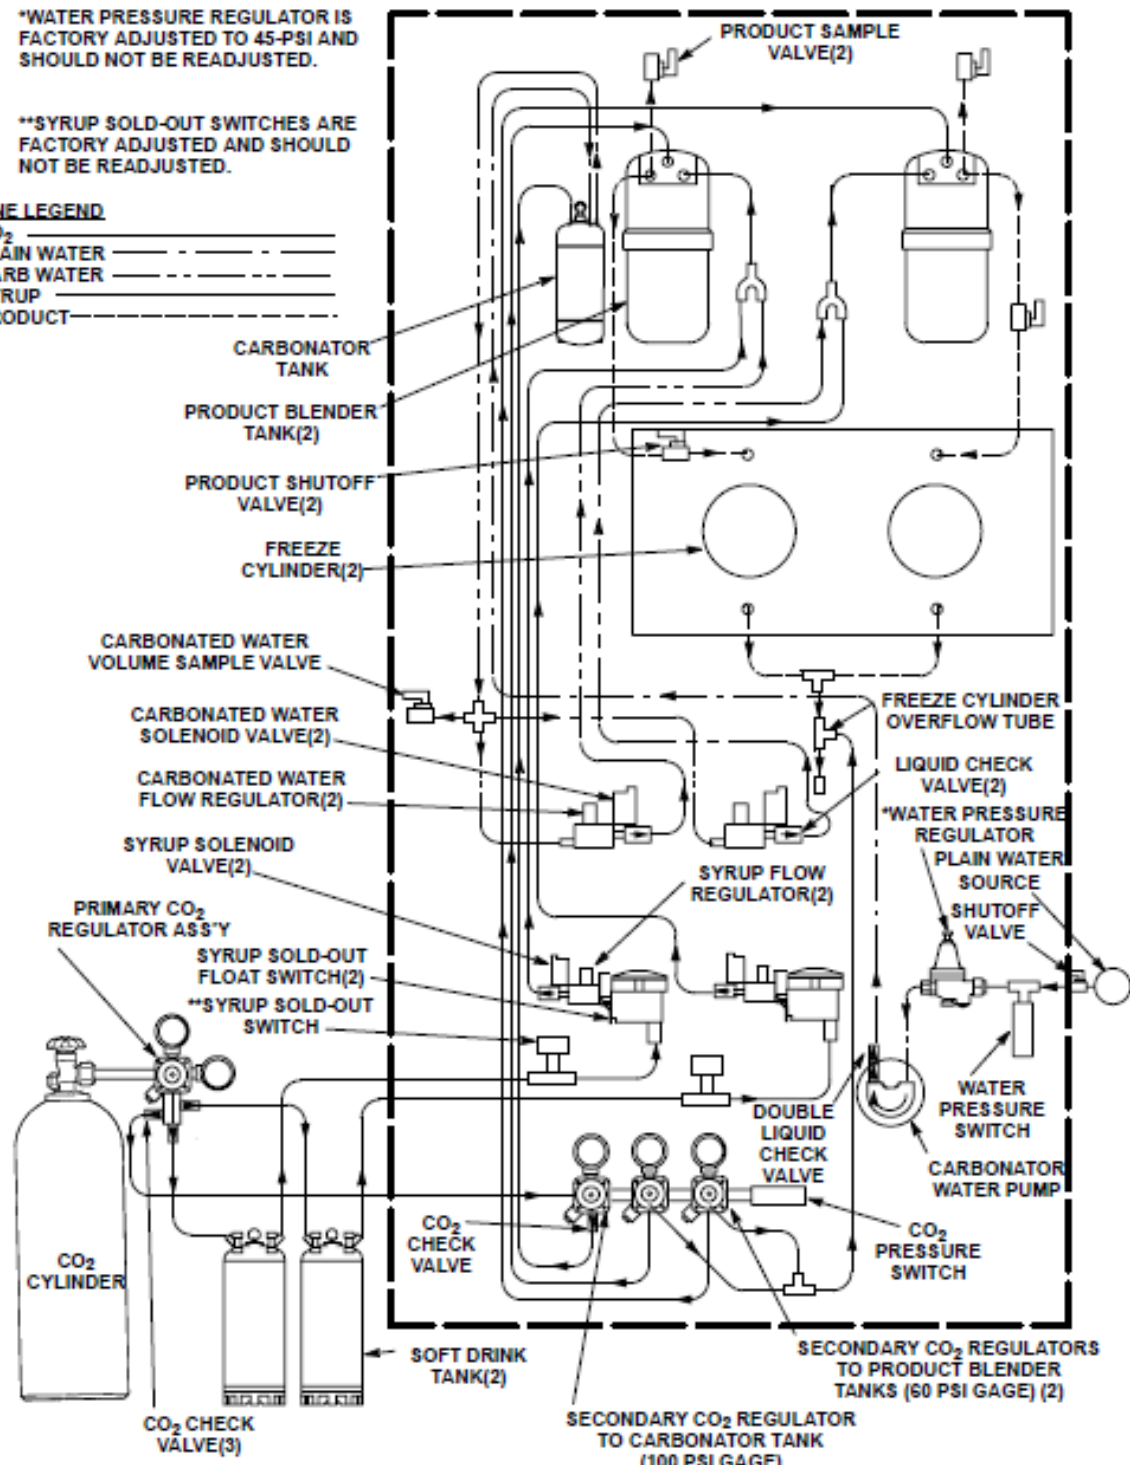

FIGURE 2. FLOW DIAGRAM
(see Figure 2)
1. Connect soft drink tanks CO₂ lines to primary CO₂ regulator manifold assembly as shown in Figure 2.
NOTE: The Units require connection to a city plain water source line with a minimum water pressure of 12-psig. Cornelius Inc. recommends that a water shutoff valve and water filter be installed in the City plain water source line (see Figure 2). A Cornelius Water Filter (P/N 313860000) and Quick Disconnect Set (P/N 313867000) are recommended.